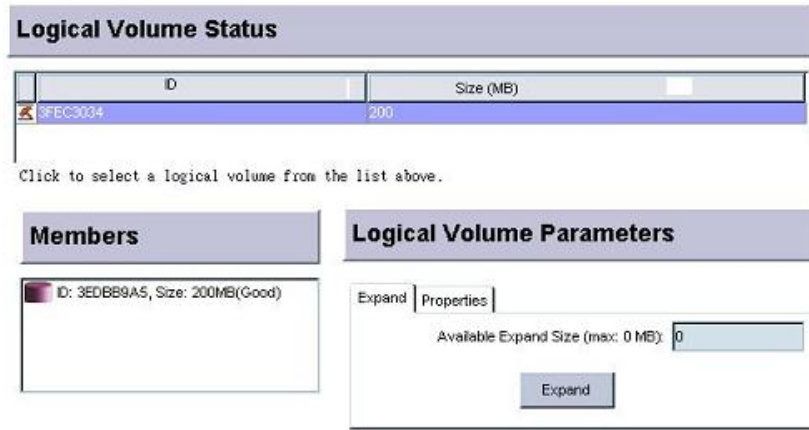

Figure 9-17: Existing Logical Volumes Window
Step 3. Select a configured LV from the Existing Logical Volumes window shown in *Figure 9-17*. As shown below, all the LVs that have been created will appear below the “**Logical Volume Status**” panel.